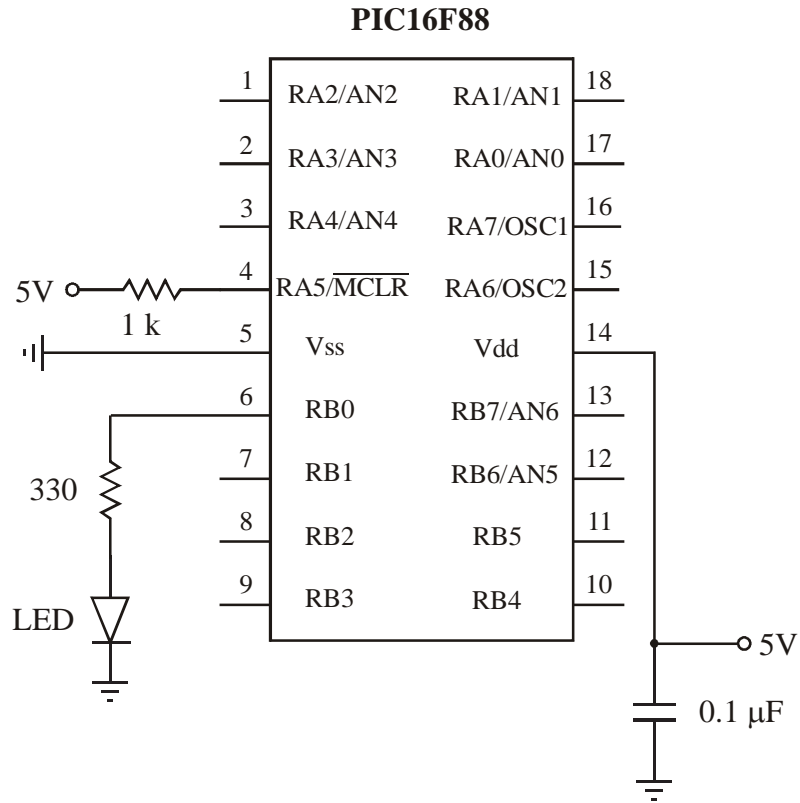

Figure 9.2 Circuit to be modified to run onint.bas
- (4) Repeat steps (1) through (2) for the "onint.bas" program listed in Section 9.5. **Be sure to create a new project and follow the entire procedure.** Before constructing the circuit for onint.bas, identify the additional components required in Figure 9.2. Indicate the necessary changes in the figure and check with your Teaching Assistant to verify that your changes are appropriate. The program should turn on an LED attached to PORTB.7. An interrupt on PORTB.0 should cause the LED to turn off for half a second, and then turn back on again. This should be signaled by a single pole, single throw (SPST) switch or a normally open (NO) button. You must make sure to wire the switch or button such that the ON state applies 5 Vdc to the pin, and the OFF state grounds the pin. The input should not be allowed to "float" in the OFF state (i.e., it must be grounded through a 1k Ω resistor). When you are sure you have all components wired properly, apply power to the circuit and test it to determine if it is working properly.